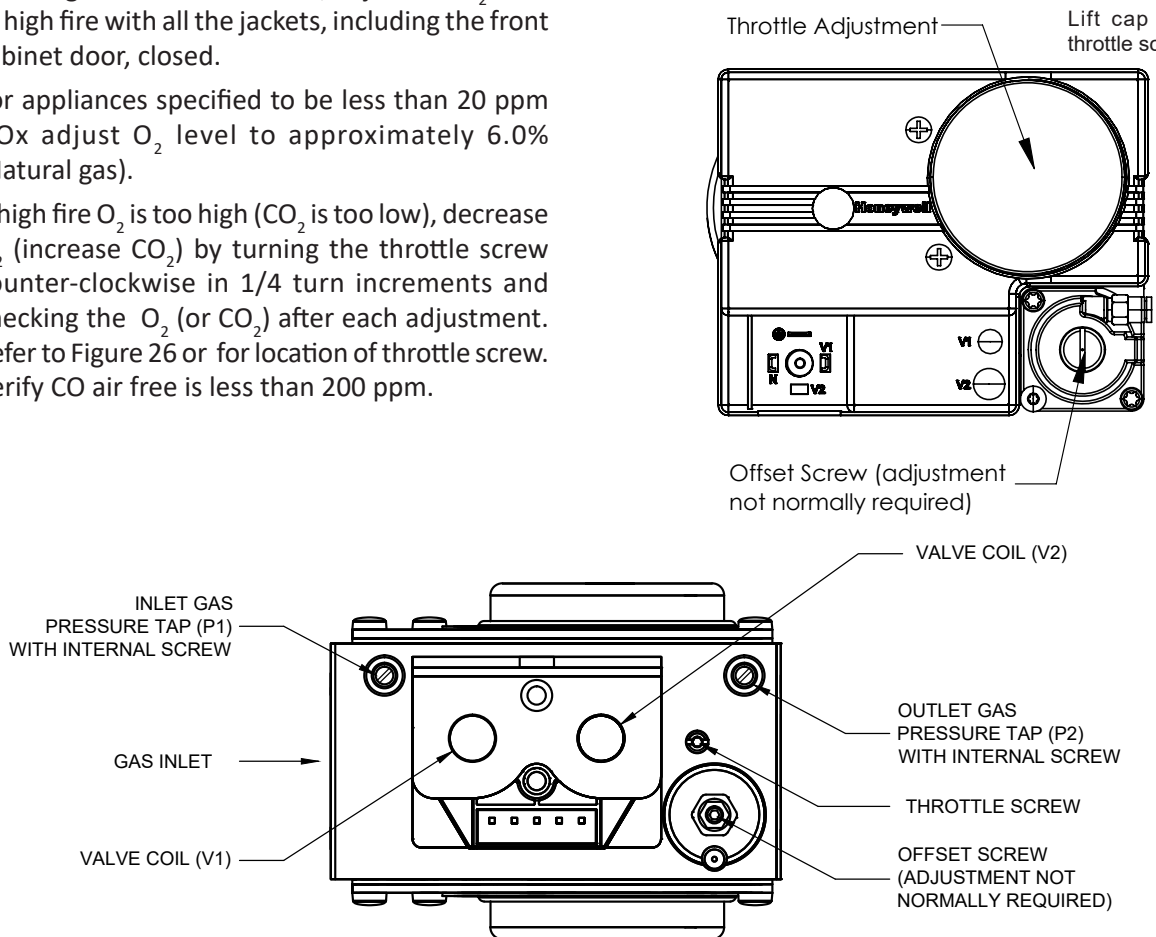

Figure 26: 400-1000L Gas Valve Adjustment
- d. If high fire O₂ is too high (CO₂ is too low), decrease O₂ (increase CO₂) by turning the throttle screw counter-clockwise in 1/4 turn increments and checking the O₂ (or CO₂) after each adjustment. Refer to Figure 26 or for location of throttle screw. Verify CO air free is less than 200 ppm.
- e. If high fire O₂ is too low (CO₂ is too high), increase O₂ (decrease CO₂) by turning the throttle screw clockwise in 1/4 turn increments and checking the O₂ (or CO₂) after each adjustment. Refer to Figure 26 for location of throttle screw. Verify CO air free is less than 200 ppm.